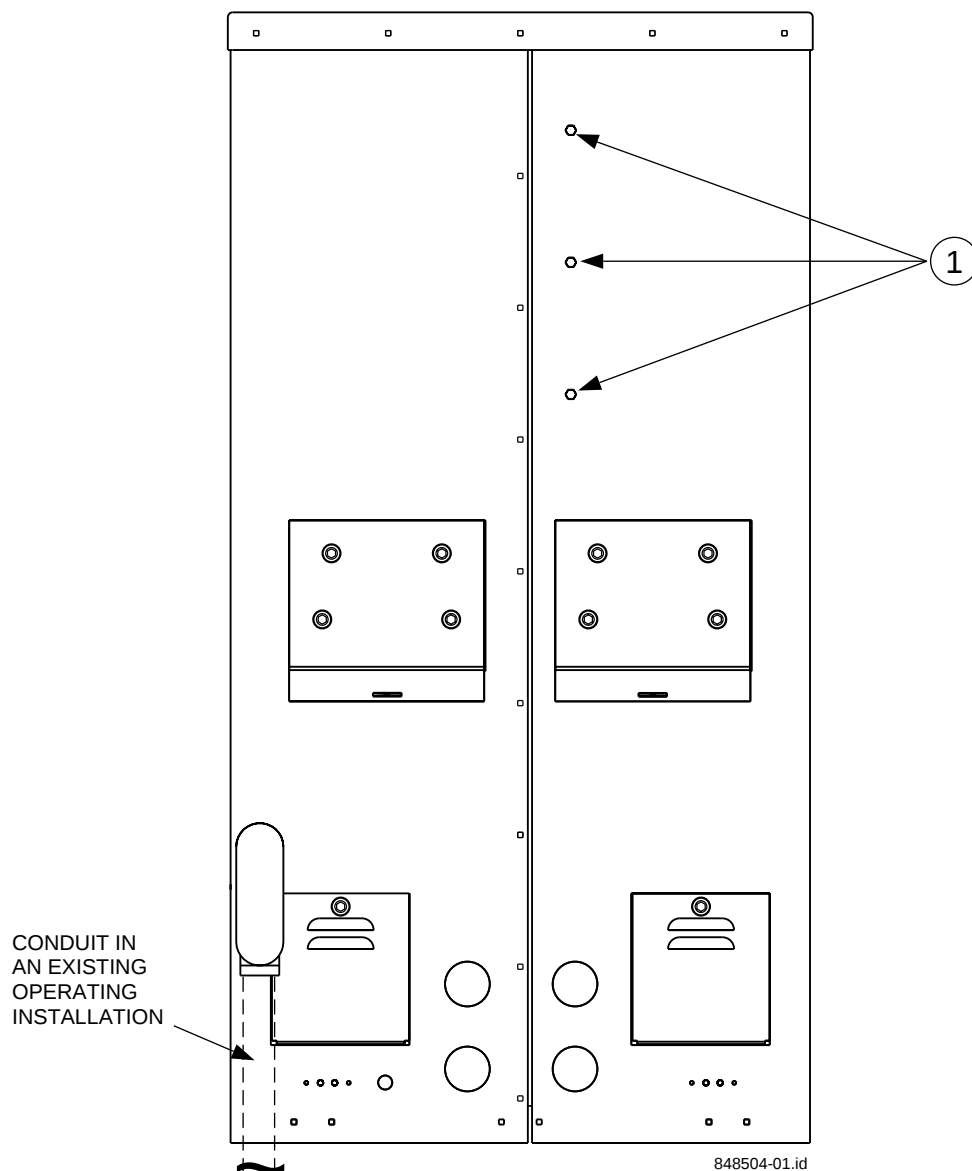

Figure 1. Removal of Rear Bolts
STEP 1— Viewing the power cabinet from the rear, remove three hex-head (1/4-20) screws located on the rear surface of the cabinet and discard (Figure 1).
STEP 4— Disconnect the existing AC Service Wiring and Conduit. Also, disconnect the ground electrode conductor (refer to Figures 1 and 8).